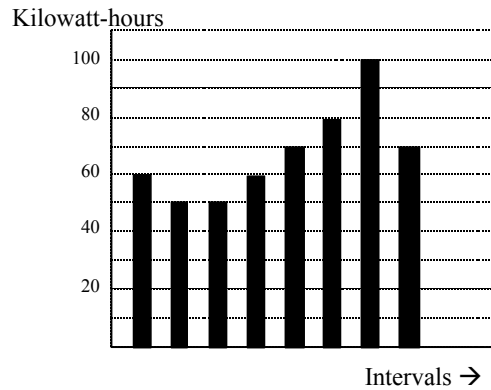

Figure 1.8: Energy Use and Demand
- Figure 1.8 shows another example of energy and demand. In this case, each bar represents the energy consumed in a 15-minute interval. The energy use in each interval typically falls between 50 and 70 kWh. However, during two intervals the energy rises sharply and peaks at 100 kWh in interval number 7. This peak of usage will result in setting a high demand reading. For each interval shown the demand value would be four times the indicated energy reading. So interval 1 would have an associated demand of 240 kWh/hr. Interval 7 will have a demand value of 400 kWh/hr. In the data shown, this is the peak demand value and would be the number that would set the demand charge on the utility bill.